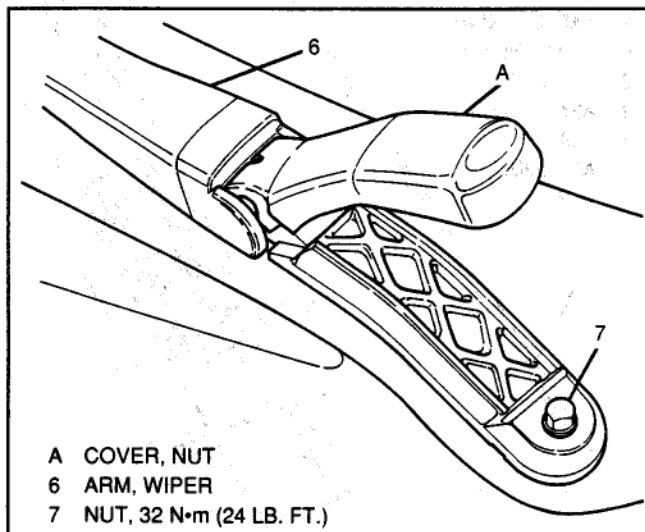

Figure 9 – Wiper Arm Nut Removal
Figures 9 through 11
3. Lift wiper arm nut cover and remove nut (7, Figure 9).
3. Nut (7, Figure 9) on linkage drive shaft.
- It may be necessary to allow for some movement of a wiper arm when its nut is being tightened. If wiper arm moves away from desired alignment mark, loosen nut (7) and reposition wiper arm.
- Nut (7) to 32 N•m (24 lb. ft.) while holding wiper arm.